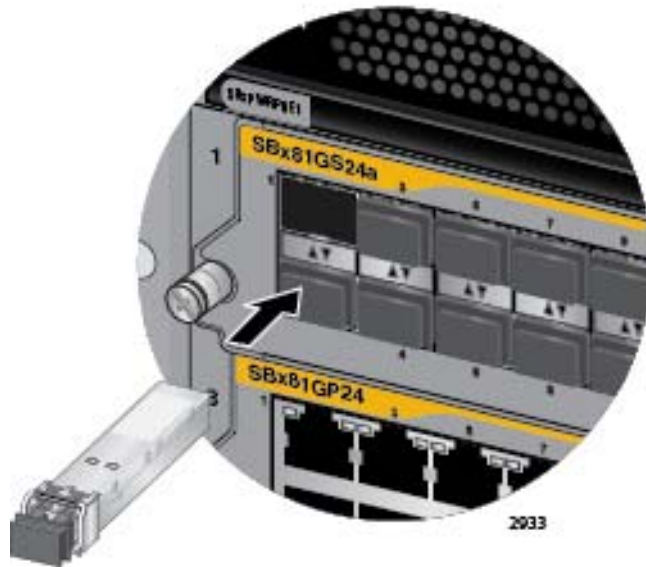

Figure 79. Inserting the SFP Transceiver in the AT-SBx81GS24a Line Card
4. Slide the transceiver into the slot until it clicks into place, as shown in Figure 79.